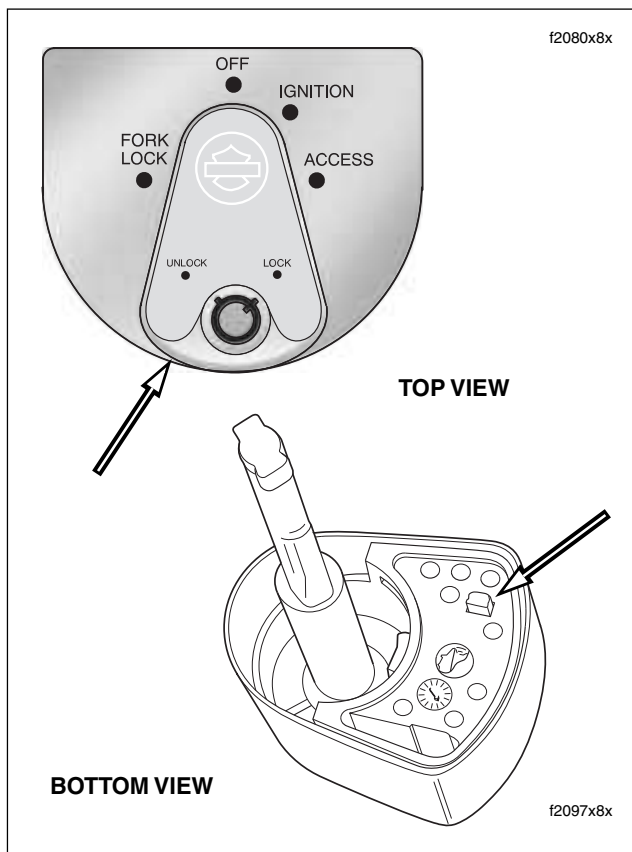

Figure 8-71. Ignition Switch Knob Release Button
- c. Depressing the release button at bottom (left side) with a small screwdriver, push key down and turn 60 degrees in a counterclockwise direction. See Figure 8-71.
- a. Verify that button at bottom of knob is depressed and key is turned 60 degrees beyond the UNLOCK position. See Figure 8-71.